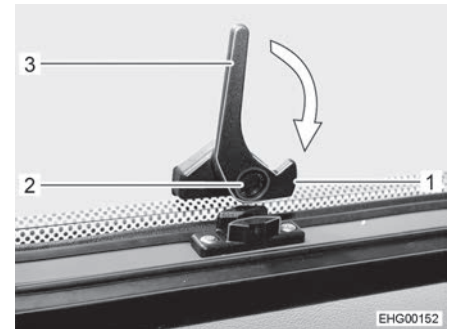

Fig. 32 Catch lever, at the bottom ("open" position)
- Press and hold the safety knob (Fig. 32,2) on the bottom catch lever (Fig. 32,3).
- Turn the bottom catch lever (Fig. 32,3) a quarter turn towards the window frame until the locking catch (Fig. 32,1) engages.